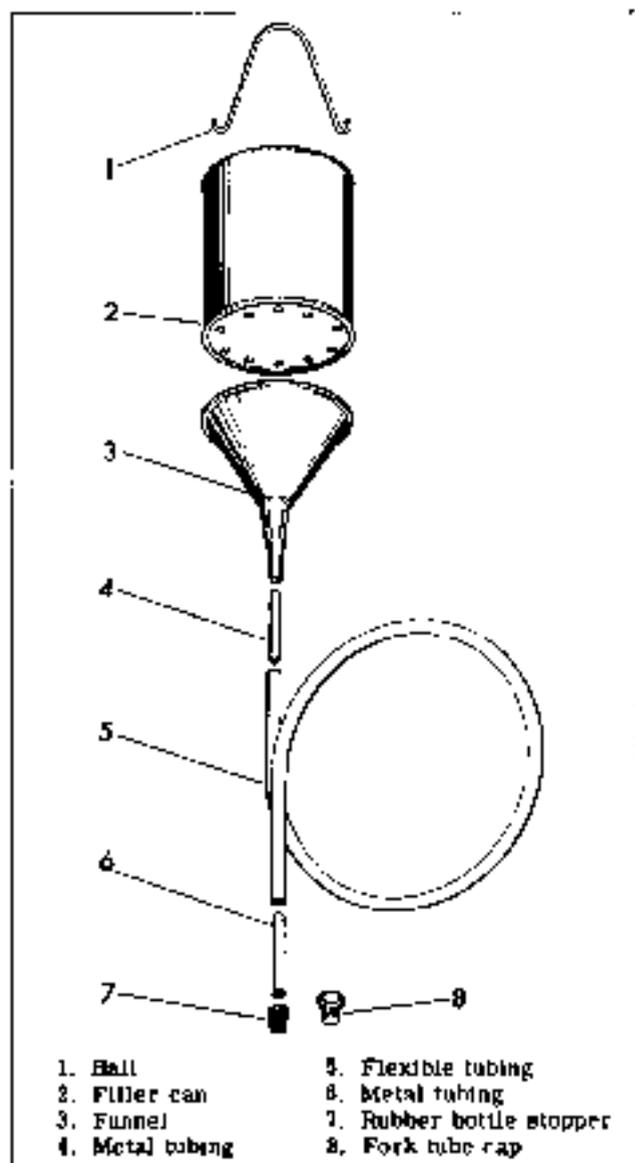

Figure 2-34A. Fork Filler Can Components - Exploded View
1. To make a filler can, see Figure 2-34A, and proceed as follows. Drill a dozen 1/4 in. holes in the bottom of a one quart tin can (2), near the outside edge. Then, shape the bottom of the can with a light hammer so that it is dished upward to assure complete draining of oil through the holes.
2. Select a tin funnel (3) with the funnel mouth about the same size as the bottom of can (2). Swage and shape the funnel spout, so that a piece of 1/4 in. metal tubing (4), about 2 in. long (a piece of fuel line is suitable), can be soldered into it. Solder (3) into the bottom of (2). Improvise and attach bail (1) to the filler can.
3. Make plug (7) from a rubber bottle stopper purchased from a drug store. Rubber stopper should be 1 in. to 1-3/8 in. long, and its largest diameter about 5/8 in.
4. Hold rubber stopper in vise and drill a 3/32 in. hole lengthwise through the center. Then enlarge the hole with a 1/4 in. drill. After hole is drilled in the stopper, insert a 1/4 in. rod (6) through the hole and grind the stopper to a 5/8 in. diameter at the large end, and slightly under 1/2 in. diameter at the small end, straight taper between ends to form the plug.
5. Slightly flare one end of a piece of 1/4 in. tubing (6), about 2 in. long, and insert into plug (7). Make an adapter (8) from an old fork tube cap. Break three stake locks securing breather valve and remove valve from cap. Drill a 1/2 in. hole through cap and plug the vent hole. Assemble adapter (8) to top of fork and insert rubber plug (7) into the adapter hole. Attach filler can to stopper with transparent flexible tubing (5) about 2 feet long.